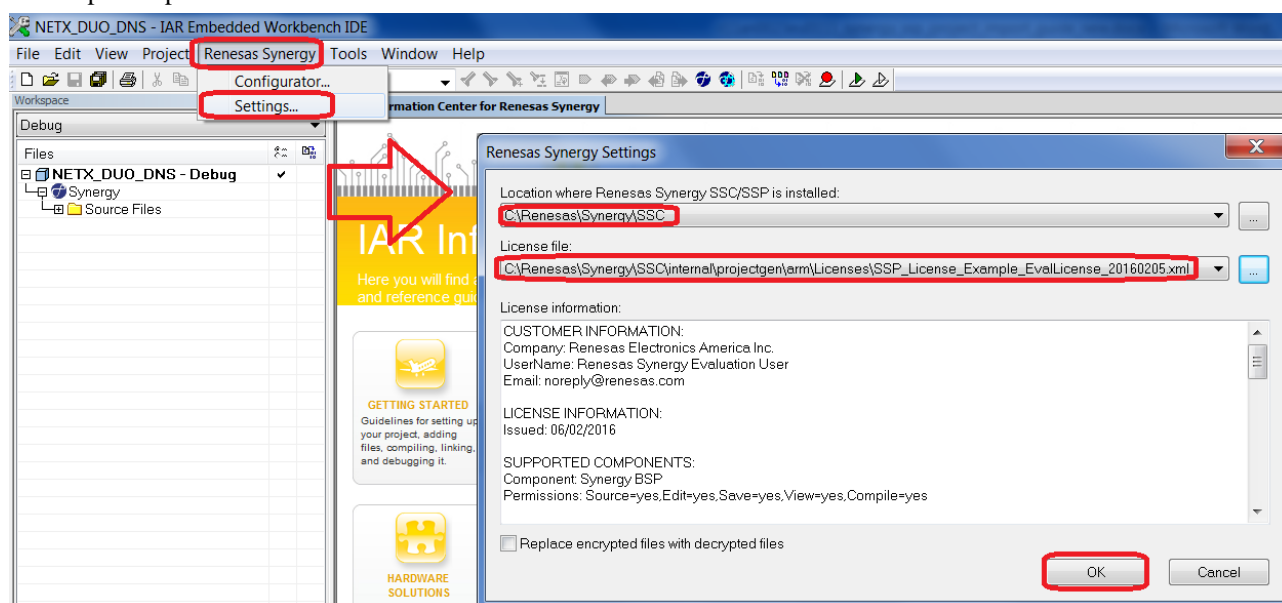

Figure 1.4 SSC/SSP settings
- Click **Renesas Synergy >Settings** to open the **Renesas Synergy Settings**. If the License file and the SSC/SSP folder are already configured, the License area and SSC/SSP location of the form is as shown in Figure 1.4. If so, skip to step 3.